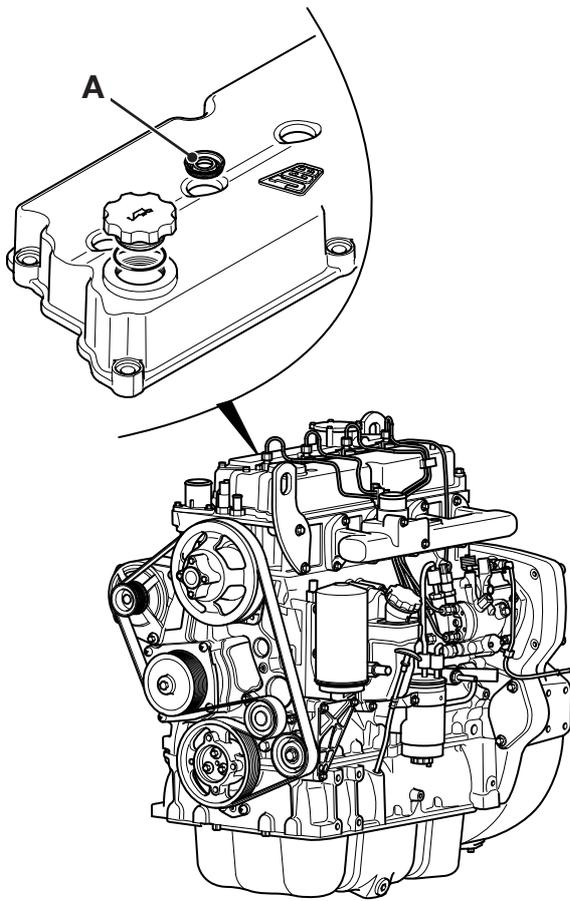

Fig 4.
- b DO NOT aim the jet wash directly at the fuel injector seals A. → Fig 4. \(□ 3-18\).